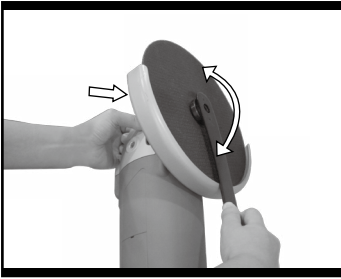

Fig. 4
The inner flange (5) is located over the spindle (6) and on the two spindle flats. Locate the disc onto the inner flange and then the outer flange (7) is screwed onto the spindle. Press the spindle lock button (4) and rotate the spindle until it locks, then firmly tighten the outer flange using your pin spanner to clamp the disc (See Fig.4). The pins on your pin spanner locate in the holes on the outer flange. Check the disc rotates freely and is securely clamped. Make a no load test run for 30 seconds to check disc vibration and disc run out. To remove a disc, reverse these instructions.